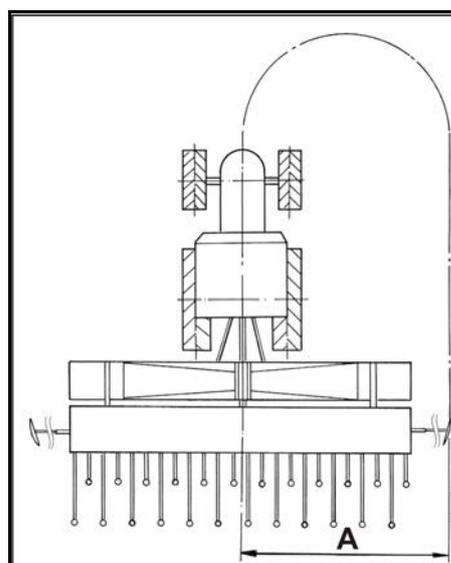

Fig. 107
4. Set the track marker length to distance "A" (Fig. 107).
Distance A (Fig. 107) is measured